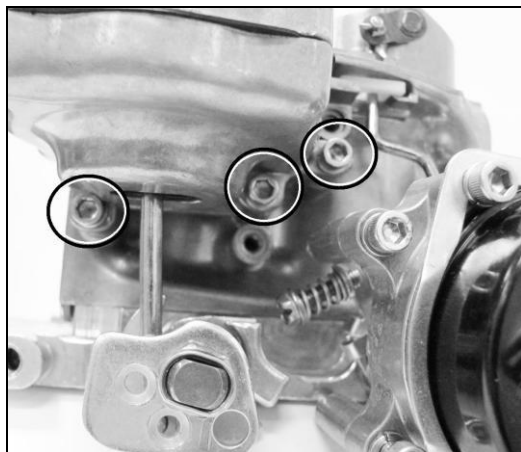

Figure 12
10. It is now necessary to re-install the vacuum pod if it was removed in step one (Fig. 12). Simply reverse the removal process. Don't forget the sealing o-ring.